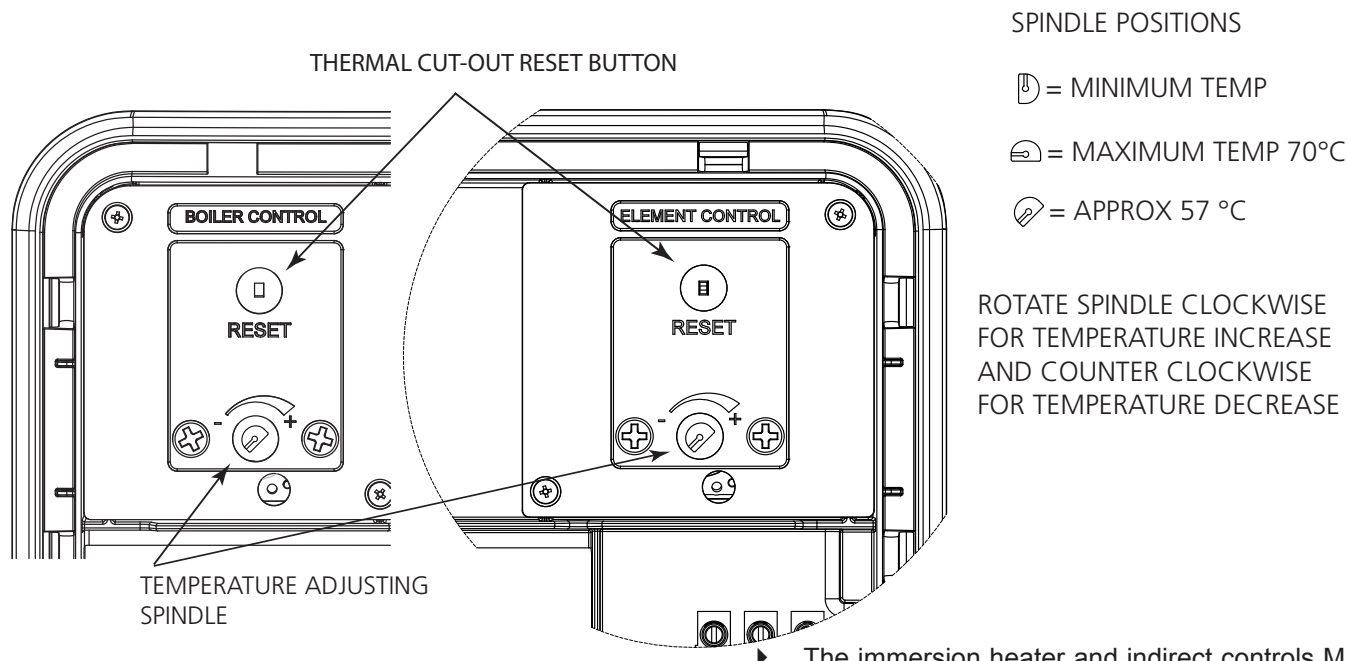

Figure 14: Thermostat adjustment
- ▶ The immersion heater thermostat is factory set at 57°C. This is set for eco mode. To maximise water availability the thermostat should be set to maximum during commissioning (see Fig 14). Should this require adjustment see Fig 14 for details of how to adjust the temperature setting. Each immersion heater has its own individual thermostatic control. The thermostat incorporates a thermal cut-out that will switch off the immersion heater in the event of a thermostat failure. The thermal cut-out reset button position is also shown on Fig 14.
- ▶ The immersion heater and boiler control thermostats are factory set at 57°C and 70°C . See Fig 14 for details of how to adjust the temperature setting. The immersion heater and indirect controls each has its own individual thermostatic control. The thermostats incorporate a thermal cut-out that will switch off in the event of a thermostat failure. The thermal cut-out reset button position is also shown on Fig 14.
- ▶ Switch on electrical supply to the immersion heater(s) and allow the water heater to heat up to normal working temperature, factory set to 57°C but for maximum hot water availability reset to 70°C (see Fig 14, page 20).
- ▶ Adjust the temperature by inserting a flat bladed screwdriver in the adjustment spindle on front of the immersion heater (ELEMENT) control thermostat and rotating (see Fig. 14 page, 20 for details of how to adjust). The adjustment represents a temperature range of 10°C to 70°C.
- ▶ If necessary adjust the temperature by inserting a flat bladed screwdriver in the adjustment spindle on front of the indirect (BOILER) thermostat and rotating (see Fig. 14, page 20 for details of how to adjust). The adjustment represents a temperature range of 10°C to 70°C, setting less than 70°C will reduce the amount of available hot water.
- ▶ Temperature adjustment is made by rotating the adjustment spindle on the top of the thermostat. The adjustment represents a temperature range of 10°C to 70°C (see page 20, Fig 14 for method of adjustment).